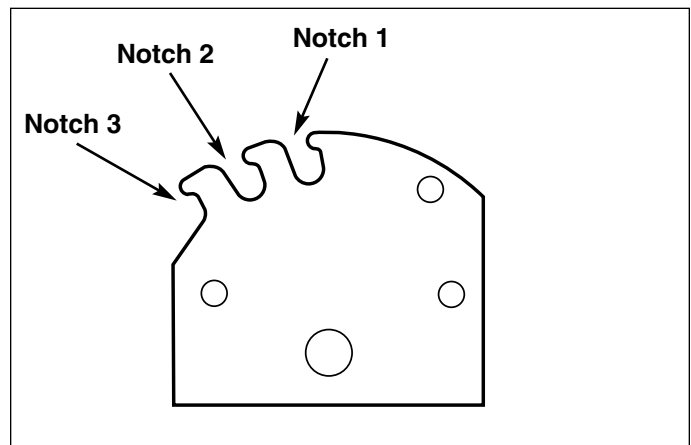

Figure 7. Lift Lever Quadrant - Side View
The lift lever can be placed in one of three notches and is held in position by the lever latch. (see Figure 7). When the lever latch is placed in notch 1 the lift lever should be applying downward pressure on the attachment. In position 2, the "float" position, the attachment should experience negligible upward or downward pressure. Position 3 should raise the attachment approximately 6" above the ground.
1. Place the lever latch in notch 3 (see Figure 7). The snowthrower should be approximately 6" off the ground. If not, go to step 2.
1. Move the lever latch from notch 2 to notch 1 (See Figure 7) or place the hydraulic/electric lift in the fully lowered position.